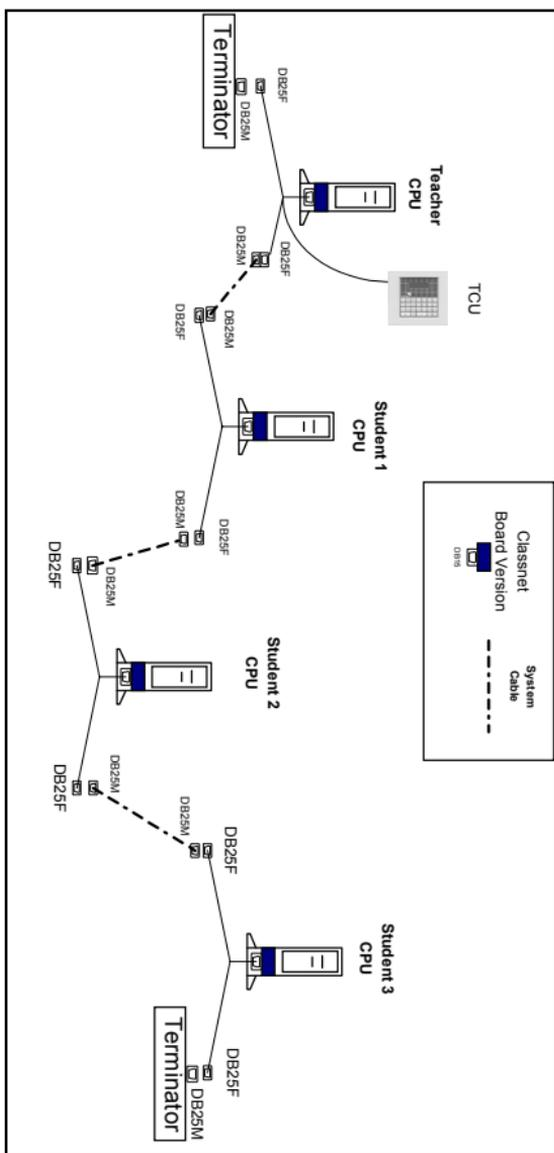

Figure 6-8 System Cable Setup. Method 1
1. Connect one of the System Cable's DB25M connectors to the *System Cable Adapter's* DB25F connector, as Figures 6-8 and 6-9 illustrate.
5. Continue with this sequence as Figures 6-8 and 6-9 illustrate.
The System Cable joins the *Teacher unit* to all the *Student units* in the classroom in a daisy-chain pattern. Each System Cable has a DB25M connector attached at each end. See Figures 6-8 and 6-9 above.